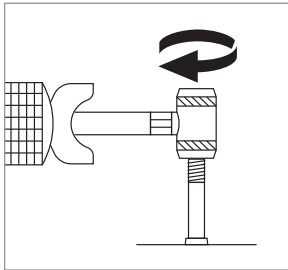

Figure 3
3. Thread the pump head onto the valve using the appropriate (Presta or Schrader) side (fig. 3).